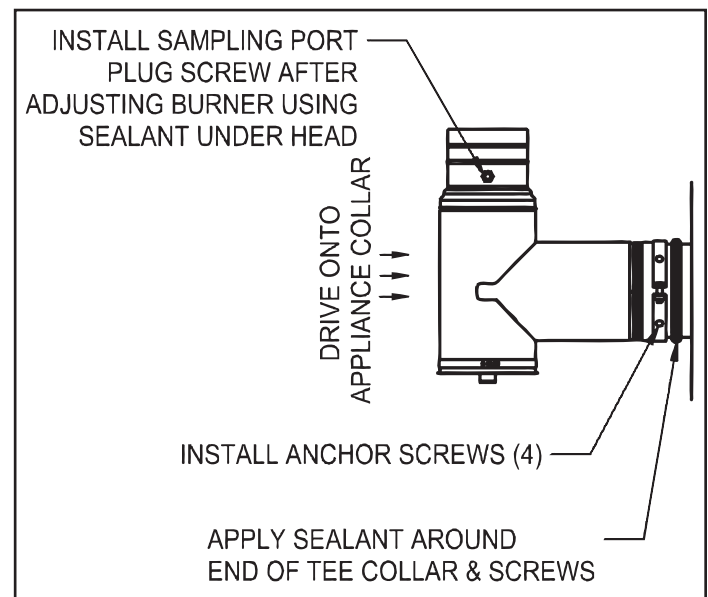

Figure 2
4. Push the reducing tee onto the appliance collar, using care to avoid damaging the appliance collar or the reducing tee. (See Figure 2)
6. Install the supplied self-drilling, self-tapping anchoring screws through the 4 holes in the appliance clamp into the appliance collar. (See Figure 2) No pilot hole is required.
7. Apply sealant to the end of the reducing tee and anchoring screws. (See Figure 2)
8. After testing and burner adjustments have been made, apply sealant to the supplied 3/8" sampling port plug screw and install the screw in the sampling port. (See Figure 2)